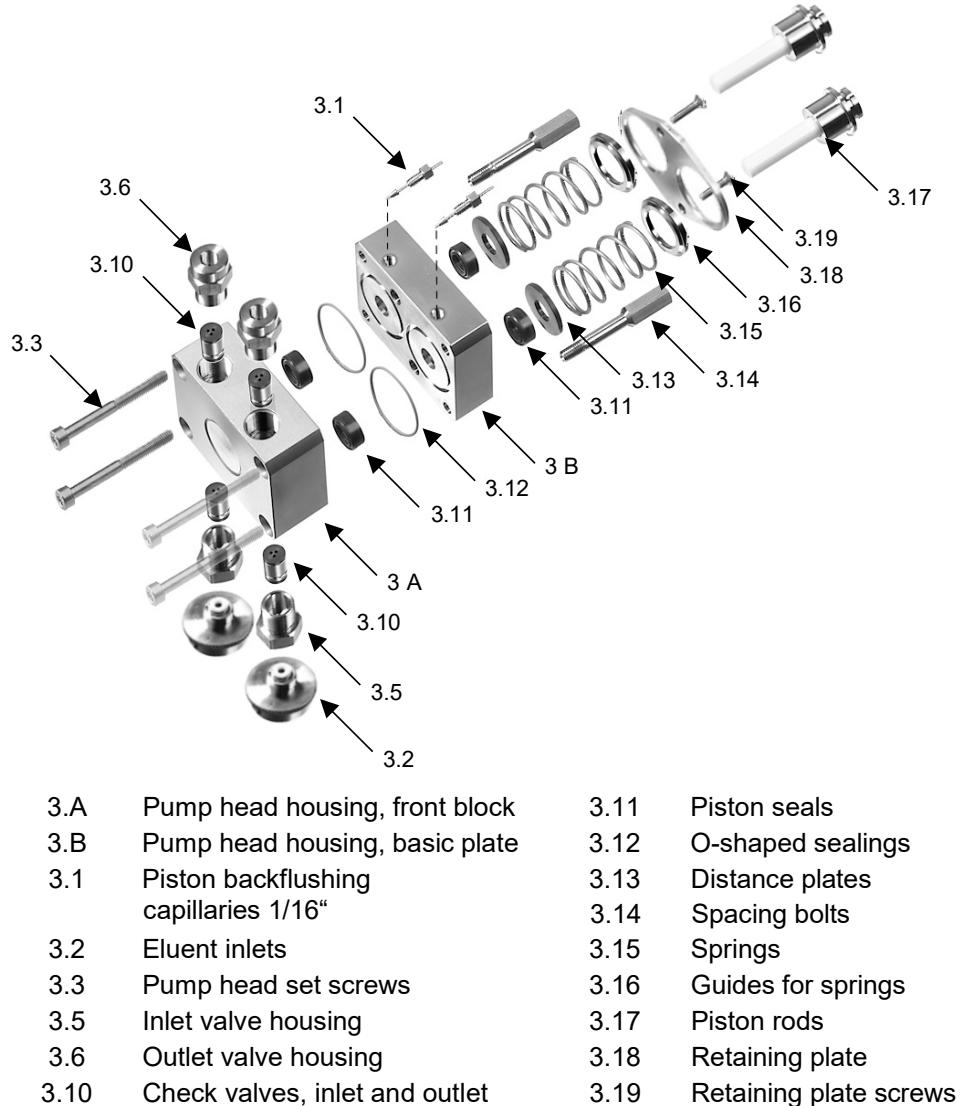

Fig. 12 Explosion diagram of pump heads
2. The „Piston rods“, Pos. {3.17} in Fig. 12 on page 14 may be removed using pliers. Take the tip of the piston using the pliers, and pull it out carefully in a straight line.
All positions of components refer to Fig. 12 „Explosion Diagram and list of parts of 100 ml, 250 ml, and 1000 ml pump heads“ on page 14.